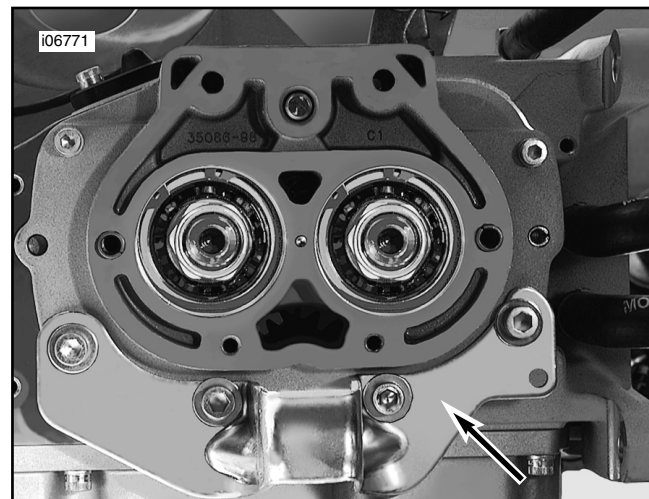

Figure 3. Exhaust Bracket on 5-Speed Side Door (side cover removed)
5. See Figure 3. Remove the fasteners from the transmission exhaust bracket.